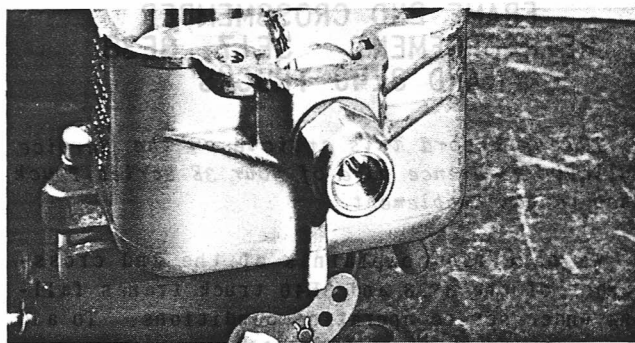

Fig. 4
1. The accelerator pump link should be installed in the inner hole next to the throttle shaft (see Fig. 4).